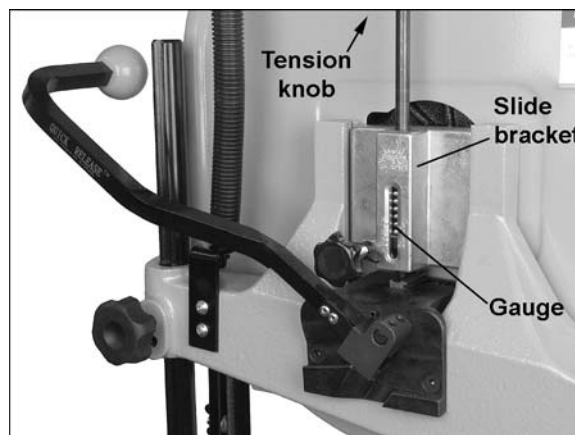

Figure 43
Refer to Figure 43.
3. Turn blade *tension knob* (Figure 43) clockwise to tension blade. A *gauge* on the upper wheel *slide bracket* indicates the approximate tension according to the width of the blade. Initially, set the blade tension to correspond to blade width.